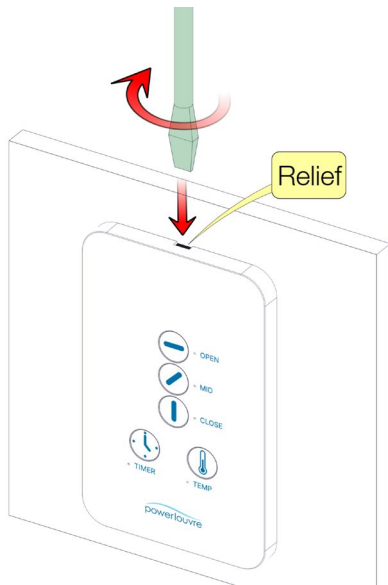

Fig. 23.4.4.6.2-1.1
1. After turning the power off, remove the cover plate using a flat screwdriver into the relief on top of the plate and twisting. *Refer to Figure 23.4.4.6.2-1.1.*